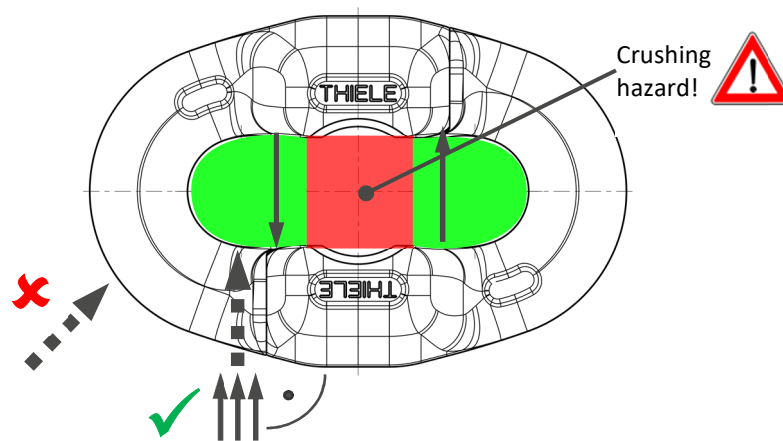

Figure 1: Open the pre-assembled connector
- Only for deliveries made in the past: Open the connector by sliding the halves apart. Hitting the connector side vertical on a flat massive surface simplifies this (the 3 bottom arrows in Figure 1 show the best hitting area). Take care, that nothing is in the opening area when the connector opens (Figure 1)!